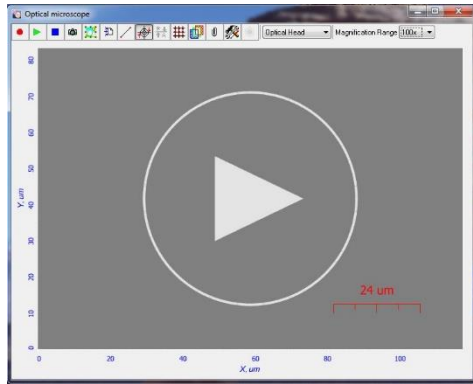

Figure 3: Optical camera
- Click the triangle in the center of the screen (Figure 3).